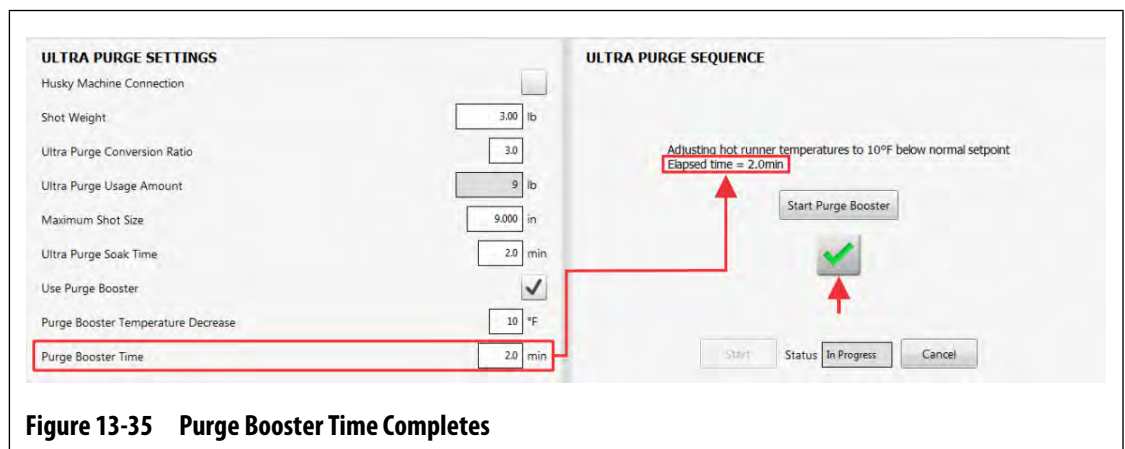

Figure 13-35 Purge Booster Time Completes
- When the Purge Booster Time completes, touch the green check mark button to continue (refer to Figure 13-35.)